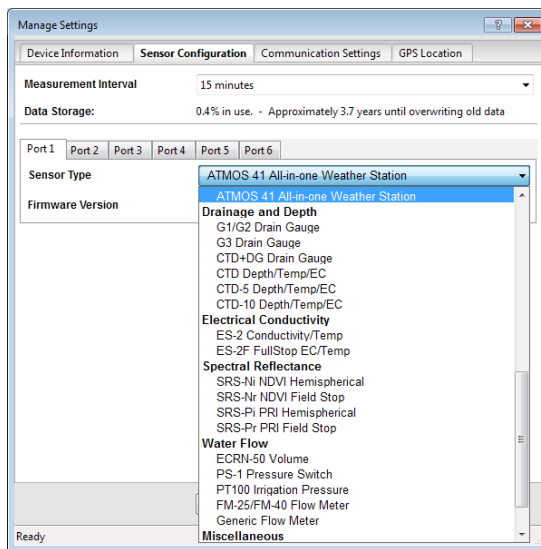

Figure 6 Select Sensor Type dropdown
11. Ensure the correct sensor type is listed in each port tab (Figure 6).